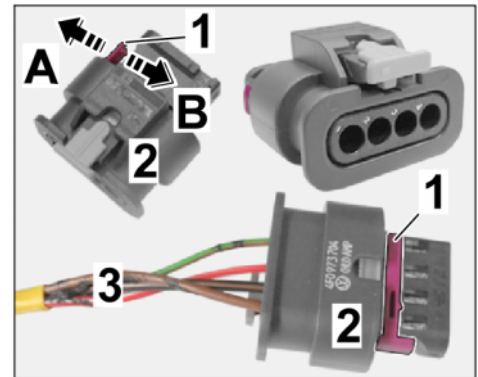

Figure 25
3.4.1 Release the socket housing (4-pin, see parts list) ((⇒ *Figure 25-A*).
3.4.3 Lock the socket housing (4-pin, see parts list) (. ⇒ *Figure 25-B-*